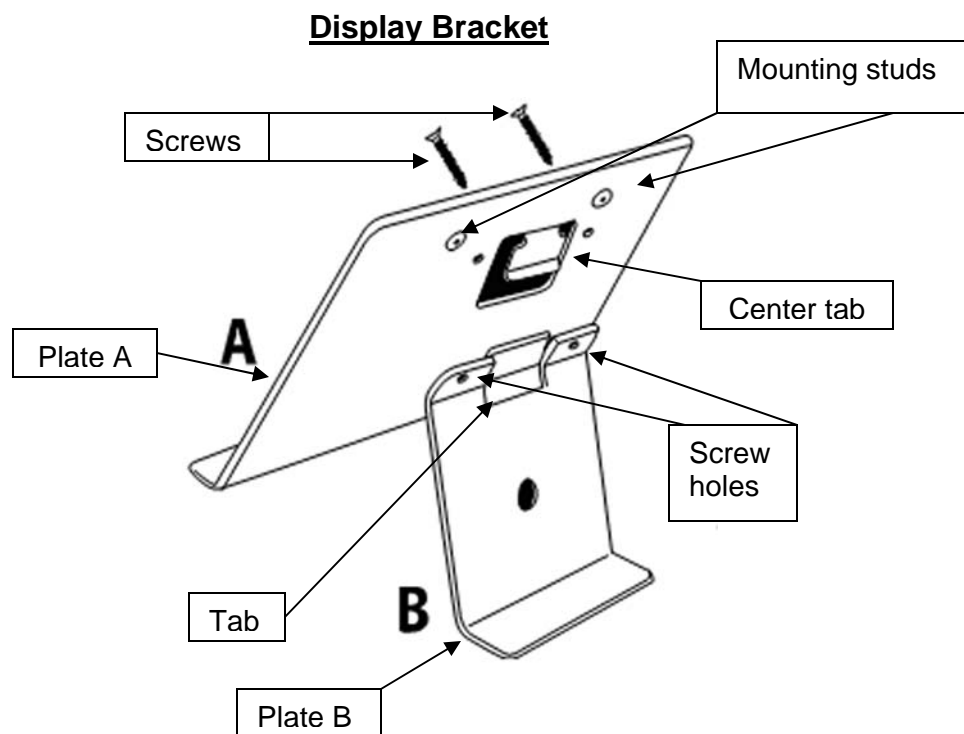

Figure 1
Assembling the 498KL Scale (Refer to Figures 1 – 4)
3. Remove the display bracket from the carton (see Figure 1).
4. Remove the two small screws from plate B (see Figure 1).
5. While holding plate A, slide the tab of plate B up and under the center tab on the back of plate A (see Figure 1).
6. Align plate A and plate B, and ensure that the screw holes are lined up (see Figure 1).
7. Insert the two small screws into the front of plate A and through the holes in plate B (see Figure 1).
8. Using a Phillips head screwdriver, tighten the screws to secure plate A to plate B (see Figure 1).
9. Slide the two mounting studs on the display bracket into the two mounting holes in the back of the display assembly (see Figures 1 & 4). The display bracket is now ready for use.